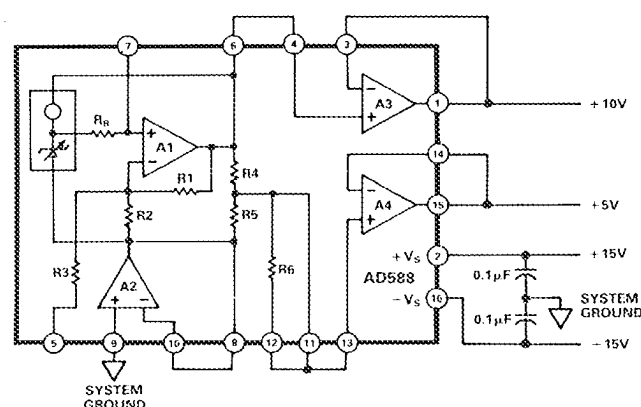
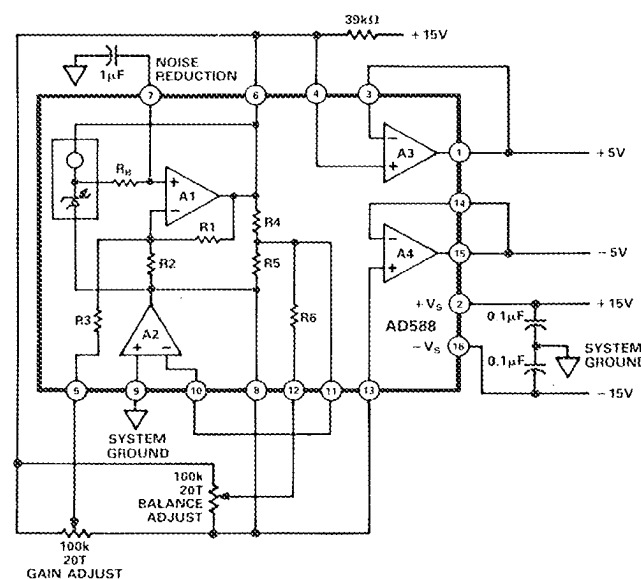
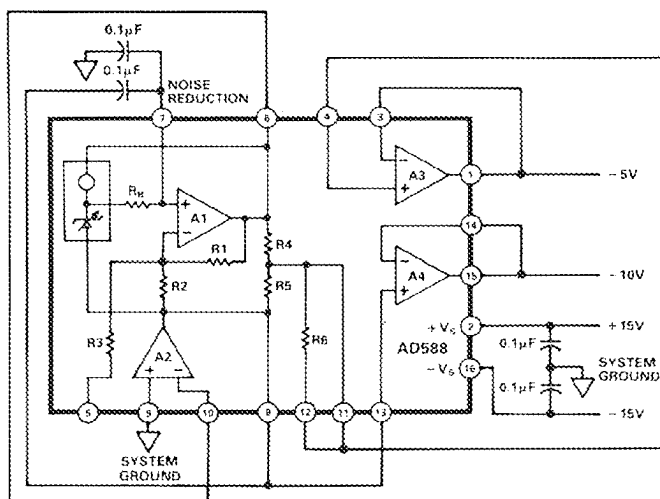

Figure 2a. +10 V Output
Figure 2b. +5 V and -5 V Outputs
Figure 2c. -10 V Output
+10 V Figure 2a
-10 V Figure 2c
+5 V, -5 V, ±5 V Figure 2b
The AD588 can be configured to provide $+10$ V and -10 V reference outputs as shown in Figures 2a and 2c respectively. It can also be used to provide $+5$ V, -5 V or a ± 5 V tracking reference as shown in Figure 2b. Table I details the appropriate pin connections for each output range. In each case, Pin 9 is connected to system ground and power is applied to Pins 2 and 16.
As indicated in Table I, a $+5$ V buffered output can be provided using amplifier A4 in the $+10$ V configuration (Figure 2a). A -5 V buffered output can be provided using amplifier A3 in the -10 V configuration (Figure 2c). Specifications are not guaranteed for the $+5$ V or -5 V outputs in these configurations. Performance will be similar to that specified for the $+10$ V or -10 V outputs.
Figure 2b shows GAIN and BALANCE trims in a +5 V and -5 V tracking configuration. A 100 k Ω 20-turn potentiometer is used for each trim. The potentiometer for GAIN trim is connected between Pins 6 (V_{HIGH}) and 8 (V_{LOW}) with the wiper connected to Pin 5 (GAIN ADJ). The potentiometer is adjusted to produce exactly 10 V between Pins 1 and 15, the amplifier outputs. The BALANCE potentiometer, also connected between Pins 6 and 8 with the wiper to Pin 12 (BAL ADJ), is then adjusted to center the span from +5 V to -5 V.
If further noise reduction is desired, an optional capacitor may be added between the NOISE REDUCTION pin and ground as shown in Figure 2b. This will form a low-pass filter with the 4 k Ω R_B on the output of the Zener cell. A 1 μF capacitor will have a 3 dB point at 40 Hz and will reduce the high frequency (to 1 MHz) noise to about 200 μV p-p. Figure 4 shows the 1 MHz noise of a typical AD588 both with and without a 1 μF capacitor.
Note that a second capacitor is needed in order to implement the NOISE REDUCTION feature when using the AD588 in the -10 V mode (Figure 2c.). The NOISE REDUCTION capacitor is limited to 0.1 μF maximum in this mode.